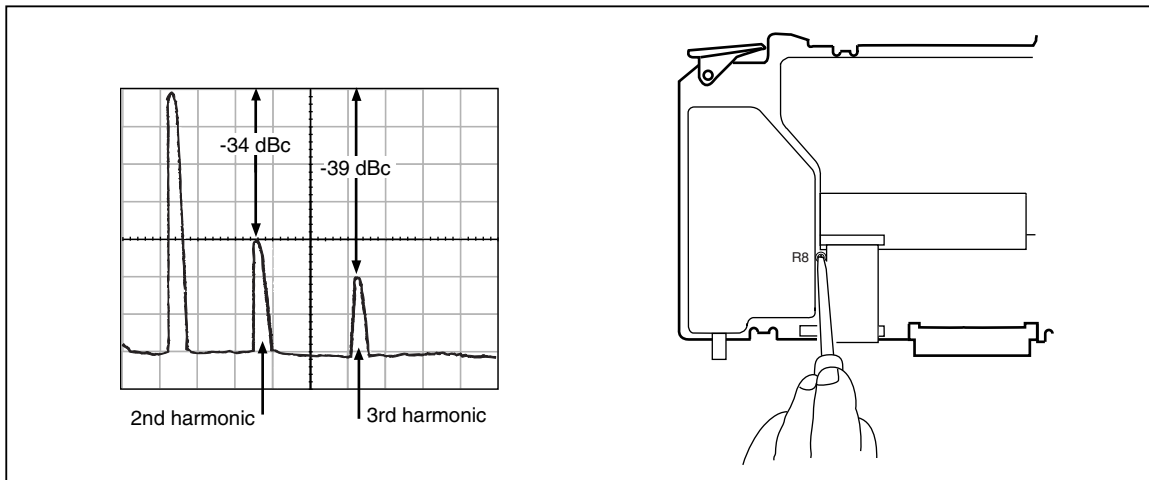

Figure 16. Levelled Sine Wave Harmonics Adjustment
5. Set the spectrum analyzer so it shows one peak across the horizontal centerline. The far right of the peak is fixed at the far right of the centerline, as shown in Figure 16.
7. Use the search function on the spectrum analyzer to find the reference signal. The spectrum analyzer display will show the fundamental with the second and third harmonics. This adjustment will set the second harmonic to -34 dBc. The third harmonic can be at -39 dBc or more as shown in Figure 16.